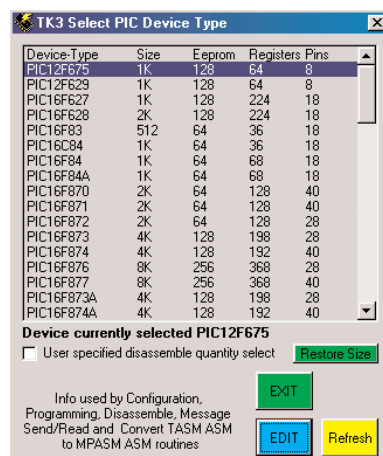

Fig.2. Amended PIC select screen
*TK3* users of version V2.24 must amend their Select PIC Type text file to use 12F629/75 devices, see Fig.2. Click the screen’s Edit Button, to load the text file into Windows Notepad, then move the two lines for the 12Fs to the top, inserting them in numerical sequence. Then delete the words “not yet implemented” so that the columns are correctly aligned. Save the file and exit Notepad, then click the Refresh button now revealed. □